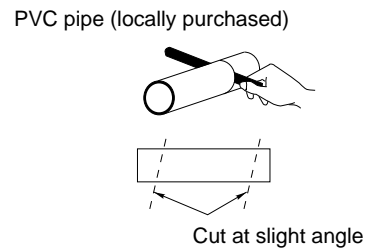

Fig. 9
- (5) Measure the thickness of the wall from the inside edge to the outside edge and cut PVC pipe at a slight angle 6 mm shorter than the thickness of the wall. (Fig. 9)